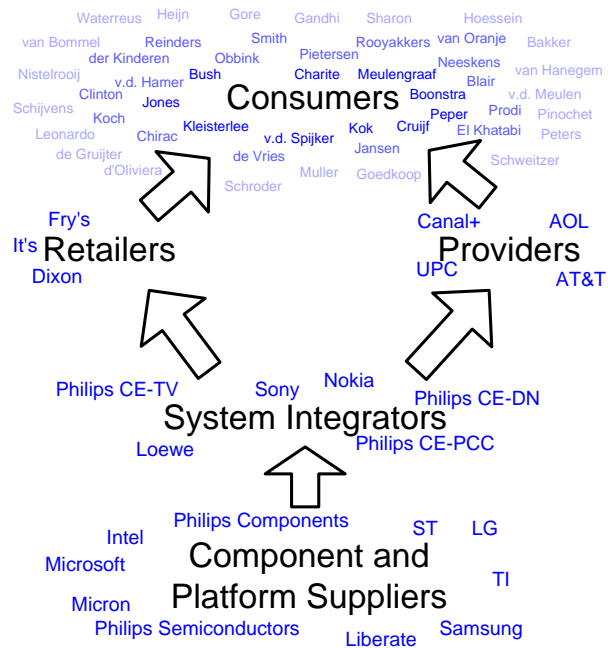

Figure 3: Value chain
Philips Semiconductors (PS) plays a part in a longer value chain as depicted in figure 3. Typical the components of PS, such as single chip TV's, are used by system integrators, which build CE appliances, such as televisions. These appliances can be distributed via retail channels or via service providers to end consumers.